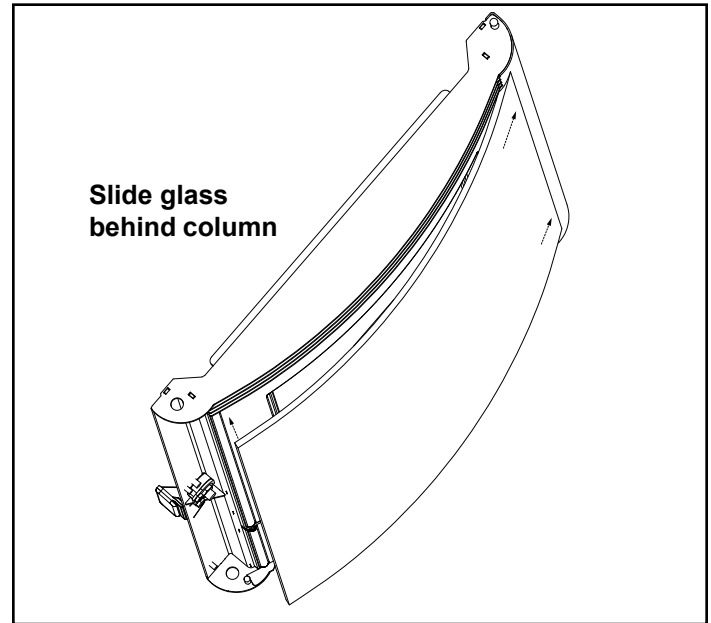
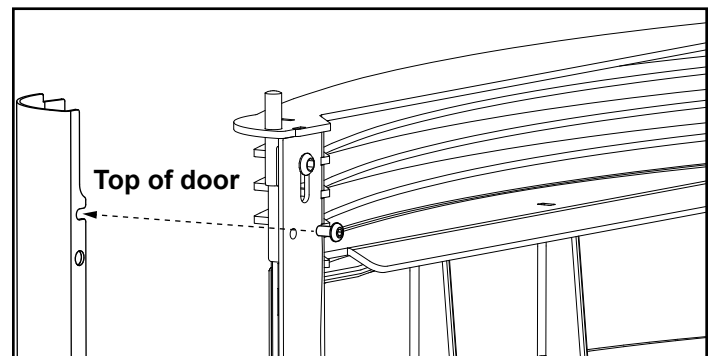

Figure 3
Figure 4
**Step 3 - Installing glass:** *If glass is not being installed move onto step 4.* Install right side column, do not tighten screws. Prior to installing glass make sure the end marked "Top" is up. Slide glass behind right hand column and push glass flush with door and center glass. Figure 3. Install the left column and tighten (3) 10-24 x 3/8" Button Head Screws at the top, center and bottom of the door, tighten right side column. Figure 4. **Note: Use 1/8" Allen Wrench supplied with stove.**
**Step 4 - Installing columns with no glass:** Door must be slightly open. Insert right column from the side. While holding column to the door swing door open and install (3) 10-24 x 3/8" Button Head Screws at the top, center and bottom of the door. Figure 4. Repeat step for other side. **Note: Use 1/8" Allen Wrench supplied with stove.**